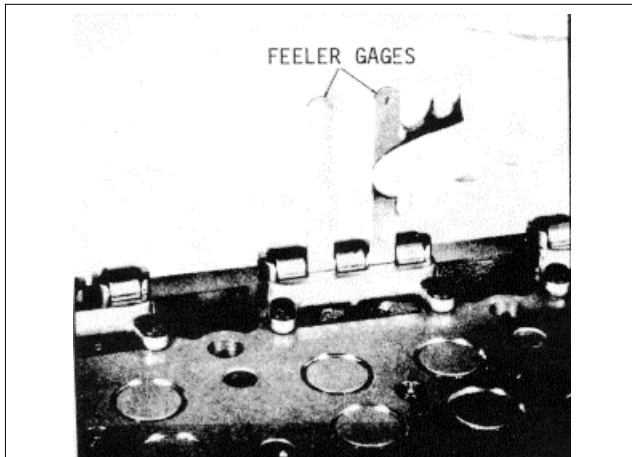
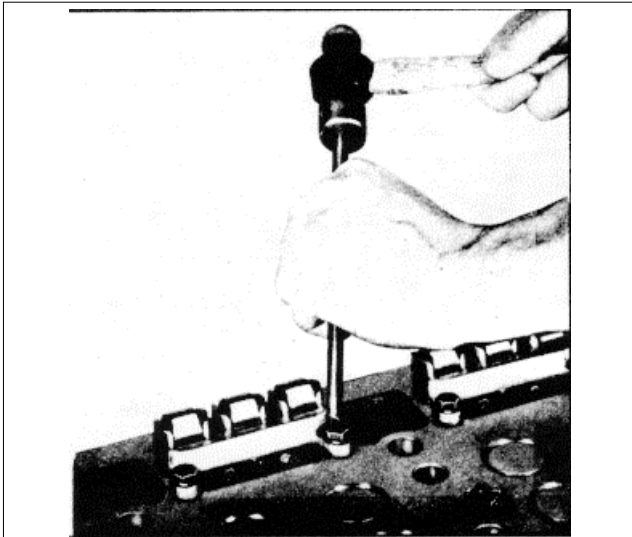

Fig. 10
Fig. 11
- (4) Attach the follower guide to the cylinder head to hold the group of three cam followers in place. Tighten the guide bolts to 12-15 ft/lbs. (16-20 N.m) torque. Check to be sure there is at least .005" clearance between the cam follower legs and the cam follower guide (Fig. 10). If there is insufficient clearance, loosen the guide bolts slightly and tap each corner of the guide with a brass rod (Fig. 11). Then retighten the bolts to the specified torque.